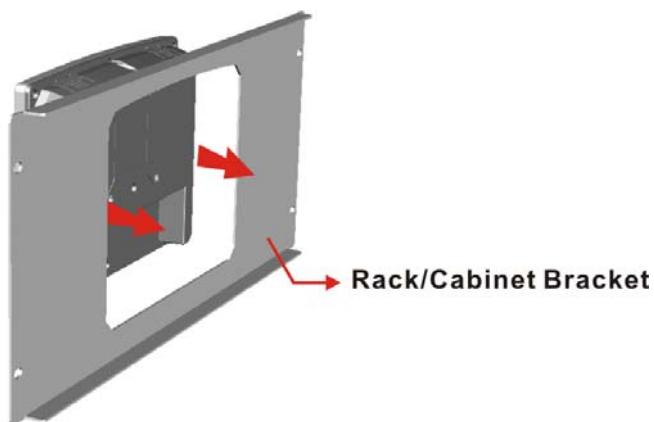

Figure 3-14: The Rack/Cabinet Bracket
Step 1: Slide the rear of the PPC-F06B-BT flat panel PC through the rack/cabinet bracket until the aluminum frame is flush against the front of the bracket (**Figure 3-14**).